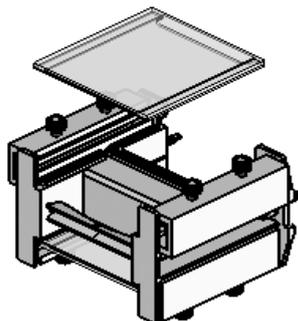
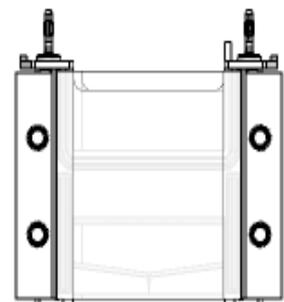

Fig. 2 Place the gel cassette sandwich
Fig. 3 Pull the sliders of the both sides
- Place the gel cassette sandwich with the groove of the plate to the side of the electrodes (fig 2). Close the sliders of the grids. Place the running module vertically and lock the gel cassette sandwich by screwing down both the up and down screws. (fig 3)